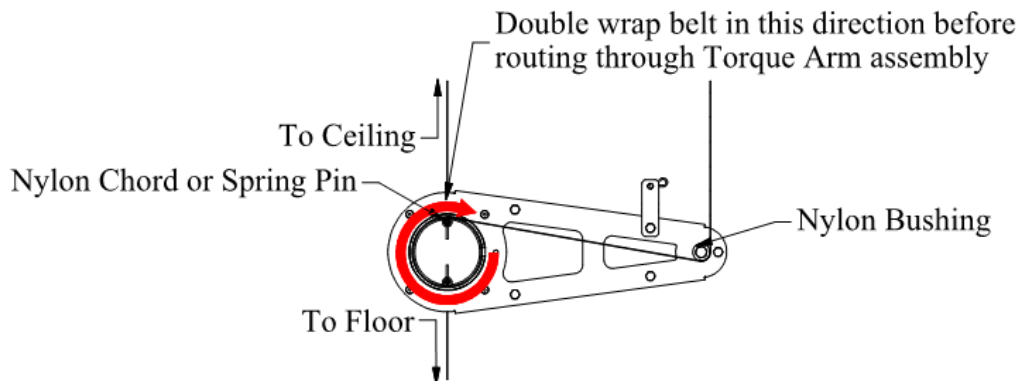

Figure 5
- The Anti-Torque Belt will need to be double wrapped around the drive tube before routing the belt through the Torque Arm Assemblies. See Figure 5